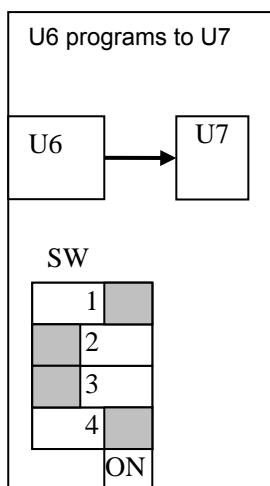

Fig.1
- 1) When the system is turned off, the toggle switch is as Fig. 1, the chip with the new software is inserted into U6 socket.